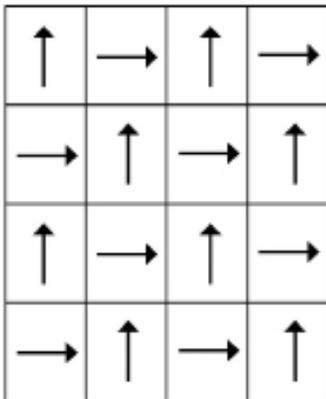

Figure 1
- For best results in general, the tiles should be turned one quarter turn to form a chequered pattern (see fig 1 below).
- Since the material is a woven fabric with natural variations in structure, slight differences in shade may be seen if the tiles are laid in the same direction. Take note of the direction of the arrow on the reverse as per Figures 1 and 2